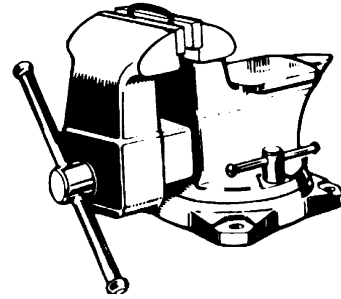

Figure 6
1. Insert one link lengthwise into a vise (Figure 6). Be sure that the side opposite the weld completely below surface of vise jaw (about 1/3 of a link). This prevents nicking or cutting the lower part of the link.